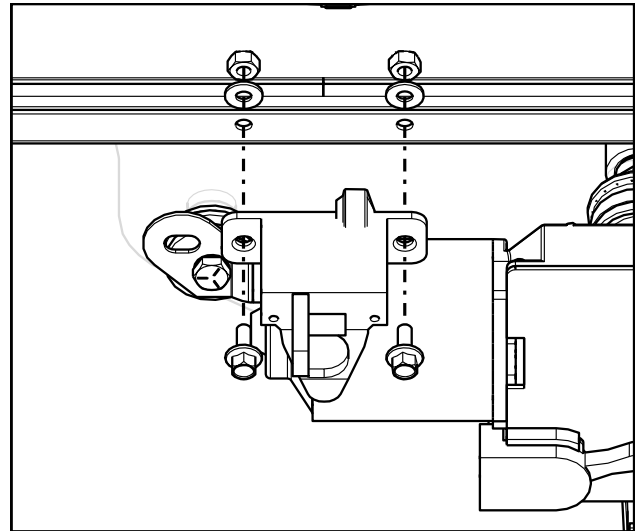

Fig. 2.2
- 2.2 Take mounting bracket and attach to windshield support through mounting holes using #10-32 x 1/2" hex head bolts, #10 x 1/2" washer, and #10-32 lock nuts. See figure 2.2. Torque to 30 inch-lbs.